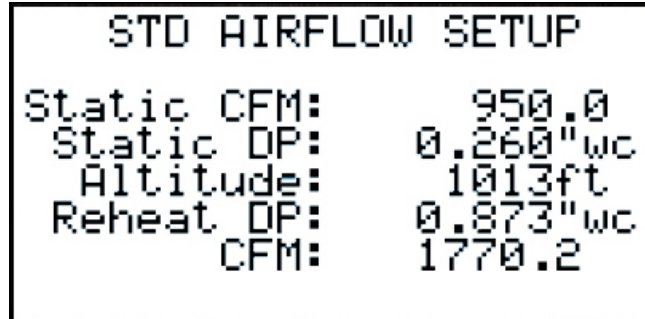

Figure 26
Pressing the **DOWN** key at the top of the Network Config screen will show the HOSTNAME screen of figure 26. The HOSTNAME screen allows the user to adjust the unit's hostname. This hostname is a label that will show up on the site network to identify this particular unit. This is defaulted to "dhu1" but it is recommended that the hostname matches the unit tag on the equipment. Hostnames should be coordinated with the building IT administrator.
2.3.3.3 Airflow Setup (Figure 26)